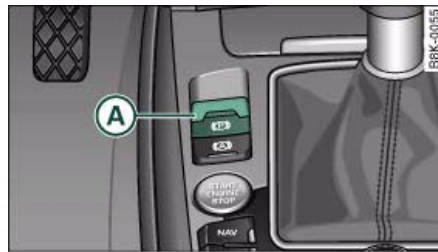

Fig. 136 Centre console: Parking brake
- Pull switch (A) ⇒ fig. 136 to apply the parking brake. The indicator lamp in the switch will light up.